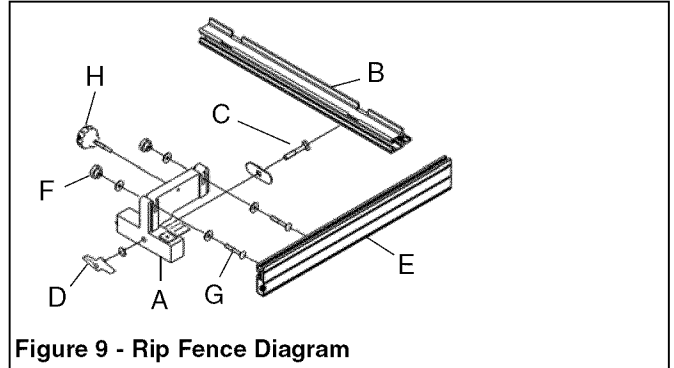

Figure 9 - Rip Fence Diagram
Refer to Figures 9 and 10.
- To assemble the rip fence, take the fence carrier (A) and attach it to the guide rail (B) using the M8x50 carriage bolt (C) and the wing nut (D).
- Fit the fence (E) to the fence carrier with the two knurled nuts (F) and M6x40 carriage bolts (G) and use the fence adjusting knob (H) for adjustment and to lock in position (see Figure 9.)